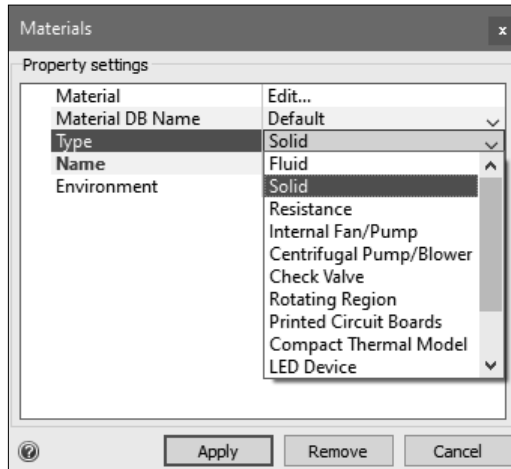

Figure-7. Material type drop-down
- Click in the **Type** drop-down from **Materials** dialog box and select desired material category; refer to Figure-7. If you want to use a gas or liquid type material then select the Fluid option.